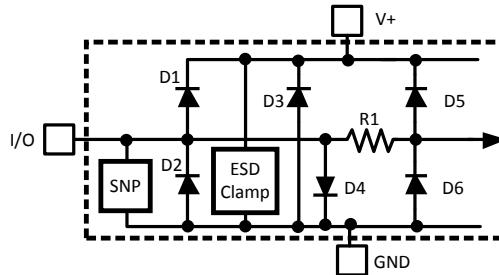

Figure 1. ESD Protection Input Structure
- (1) Absolute Maximum Ratings indicate limits beyond which damage to the device may occur. DC and AC electrical specifications do not apply when operating the device beyond its rated operating conditions.
- (2) When the input voltage (V_I) at any pin exceeds the power supplies ($V_I < GND$ or $V_I > V_{DD}$), the current at that pin should be limited to 5 mA. Parasitic components and or ESD protection circuitry are shown in **Table 1** and **Figure 1** for the LM86's pins. The nominal breakdown voltage of D3 is 6.5 V. Care should be taken not to forward bias the parasitic diode, D1, present on pins: D+, D-. Doing so by more than 50 mV may corrupt a temperature measurements.
- (3) See the URL "<http://www.national.com/packaging/>" for other recommendations and methods of soldering surface mount devices.
- (4) Human body model, 100pF discharged through a 1.5kΩ resistor. Machine model, 200pF discharged directly into each pin.